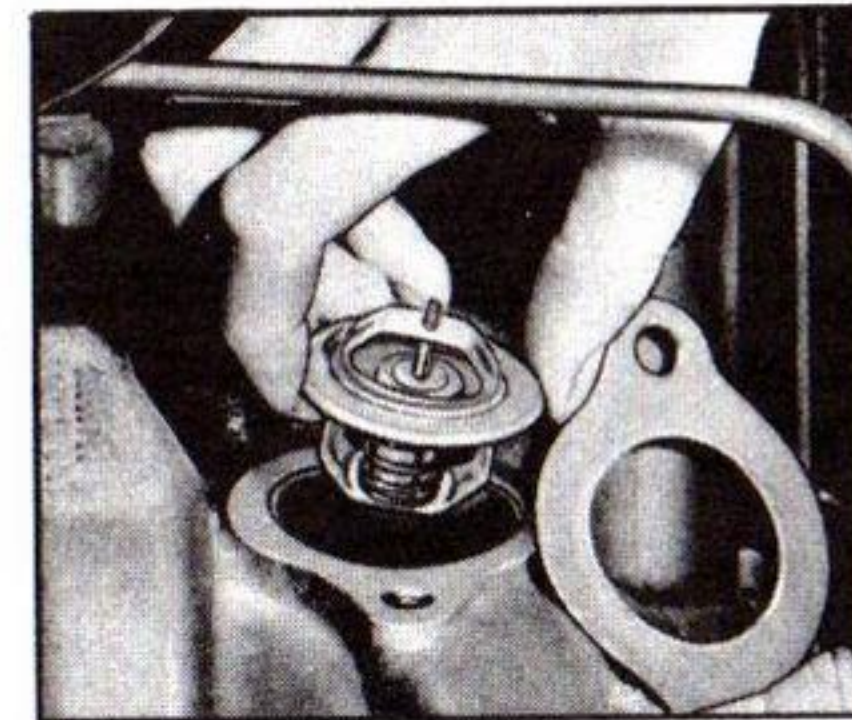

Fig. 44—Thermostat
2. Remove the two cap screws that attach the water outlet to the thermostat housing (fig. 44), and lift water outlet (with hose attached), gasket, and thermostat from housing.